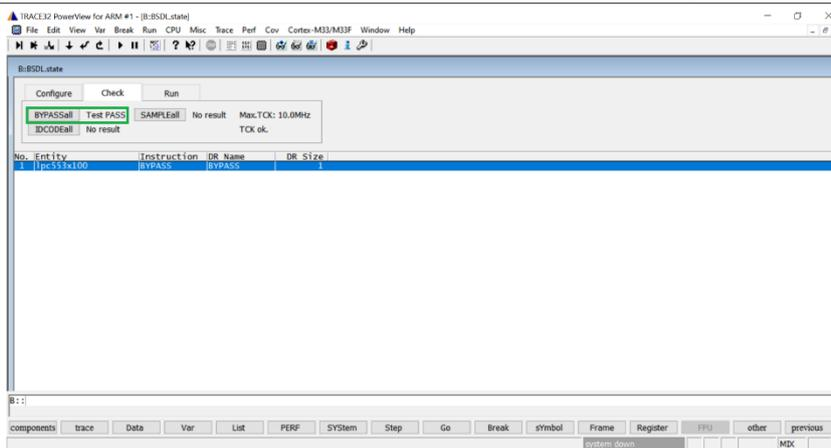
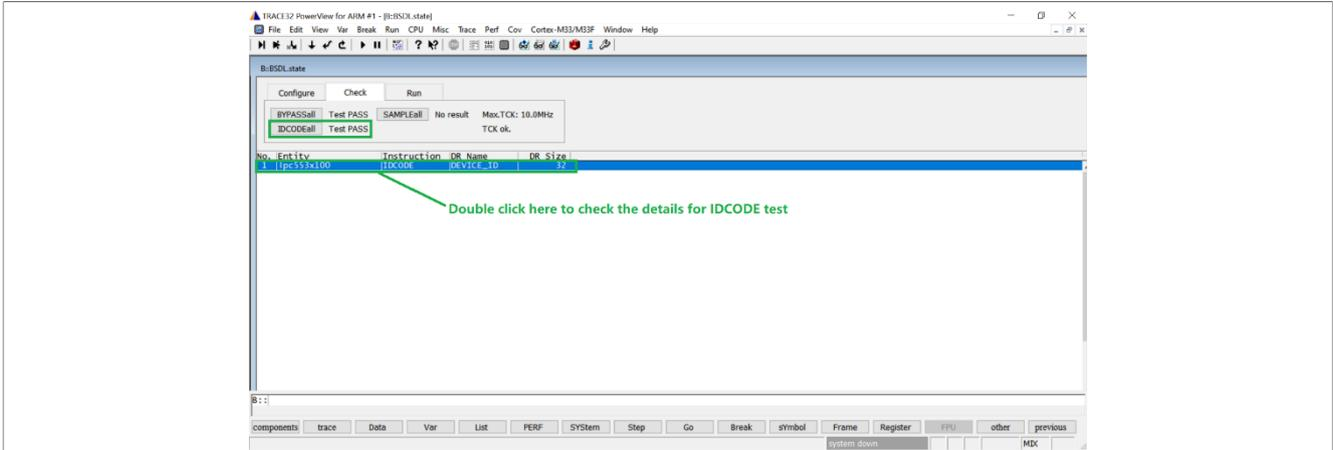
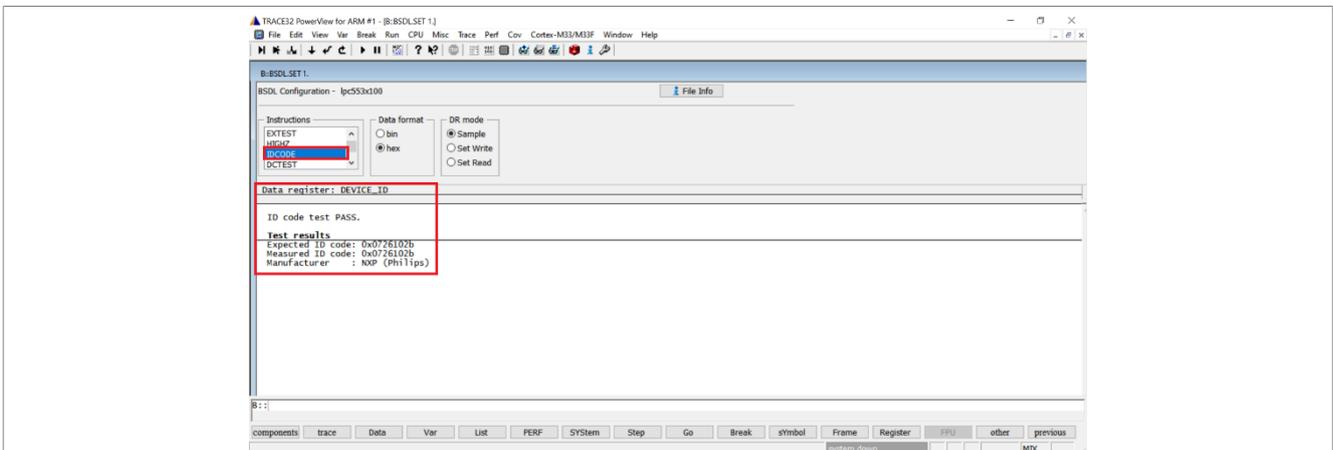

Figure 21. Checking BYPASS
Figure 22. Check IDCODE
Figure 23. IDCODE test result
7. Switch to the **Check** tab of the **BSDL.state** window. To see whether both results can pass, click **BYPASSall** and **IDCODEall**, as shown in Figure 21 and Figure 22. Double-click the entity name in Figure 22, and the IDCODE test result can be seen in the **BSDL.SET** window, as shown in Figure 23.